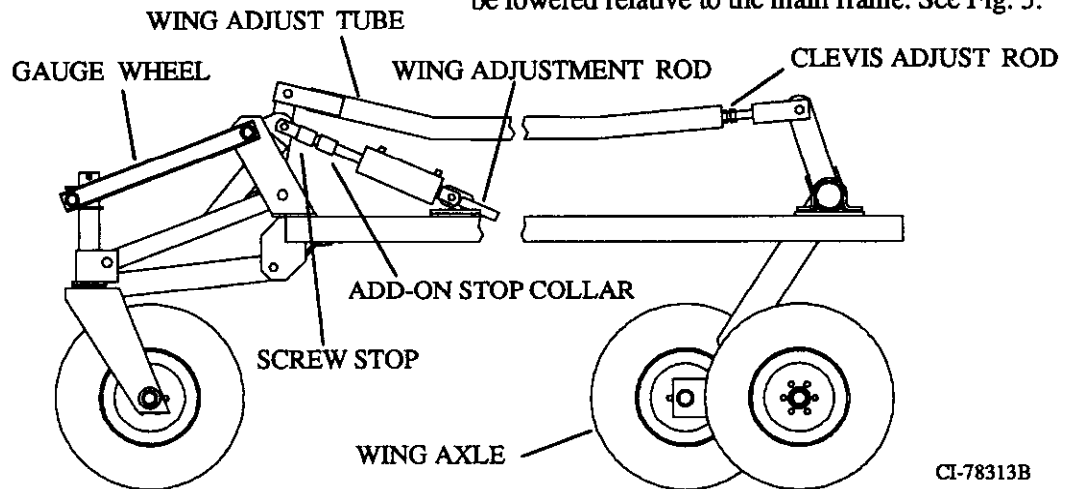

Fig. 5 Wing Adjustment
**NOTE:** Stop collars are used to set total machine depth. Adjustments required to level the wings relative to the main frame are made with the wing adjust rod - located at the outer front corners of the wings. (See Fig. 5)
To set the wing axle, the wing adjust rod is made shorter or longer. Lengthening the adjustment will raise the wing relative to the main frame. By adjusting the wing adjust rod shorter the wing will be lowered relative to the main frame. See Fig. 5.